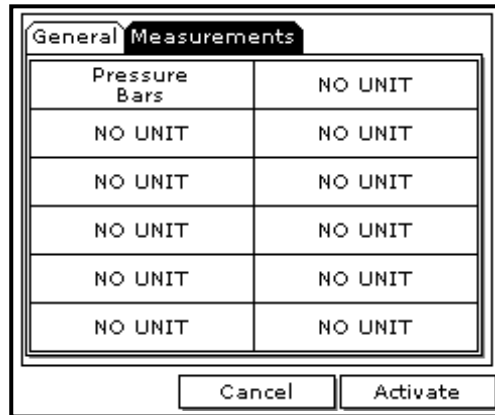

Figure 43: Log Measurements Window
2. Use the arrow keys to move back to the General tab and then move to the Measurements tab and press **[ENTER]**. A screen similar to *Figure 43* appears.